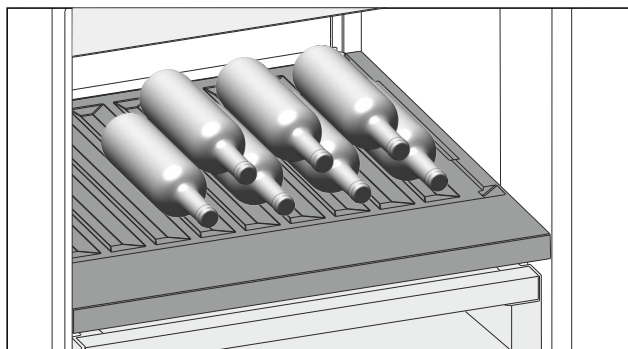

Fig. 121 Example illustration
- Insert the bottles facing backwards towards the rear wall. (see Fig. 121)